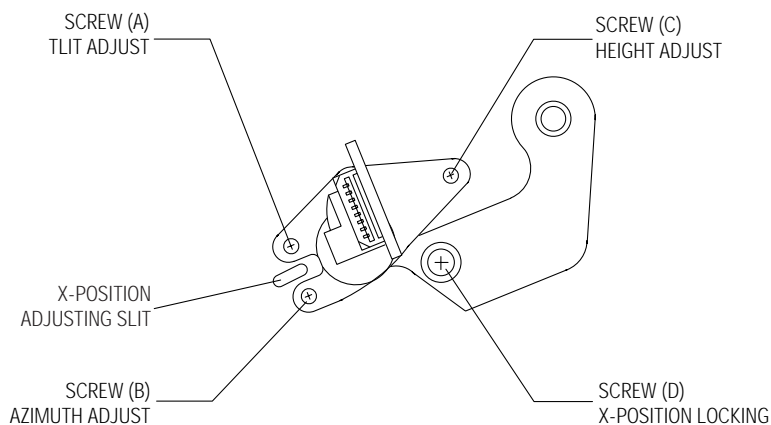

Fig. 6-10 Location of ACE Head Adjustment Screw
- 3) Turn screw (C) clockwise or counterclockwise until the gap of lower tape edge and the lower edge of the control head is about 0.25mm. (Refer to Fig. 6-10 and 6-11)
- 3) Adjust screw (B) to achieve maximum audio level. (See Fig. 6-10)